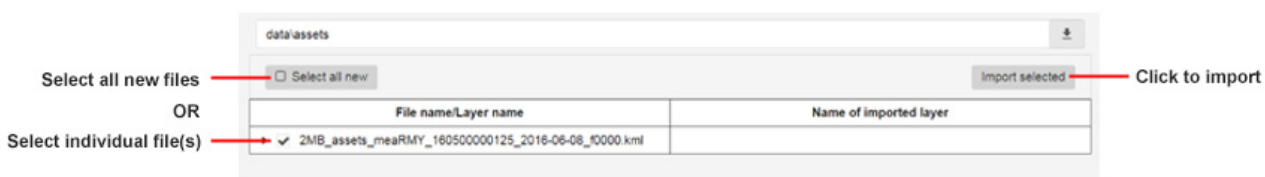
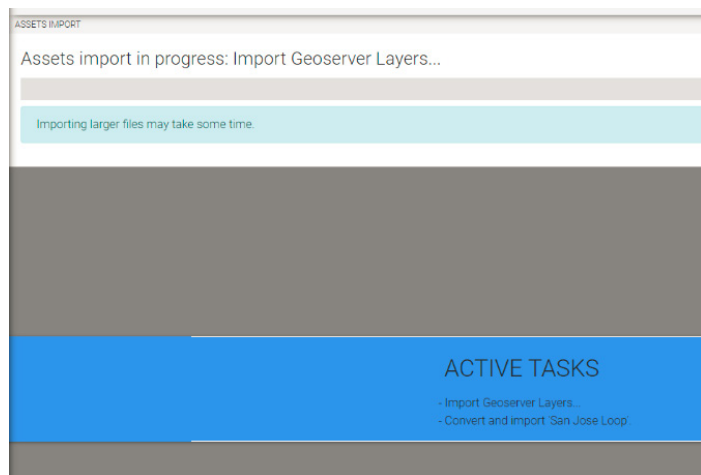

Figure 59 Select Assets to Import
Figure 60 Assets Import in Progress
- 4 When the assets are displayed, check the box next to the assets file you want to import (see Figure 59). To select only new asset files that have not already been loaded into the MobileGuard™ application, check the **Select all new** box.
5 Click **Import selected** (see Figure 59). The screen shown in Figure 60 is displayed during the import process.